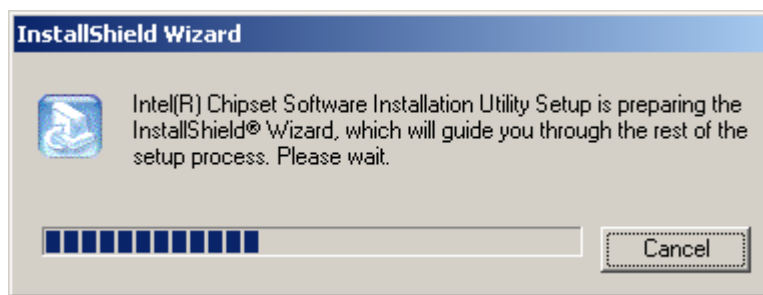

Figure 6-1: InstallShield Wizard Preparation Screen
Step 2: The **Chipset Software Installation Utility** prepares the **InstallShield Wizard** (Figure 6-1).